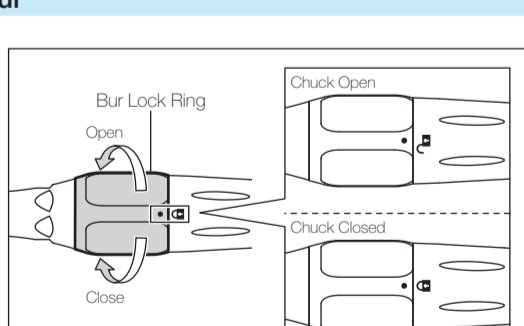

Fig. 2
(1) Mounting the Bur
- Turn the Bur Lock Ring in the direction of the "⌚" mark until it clicks. (Fig. 2)
- 2) Turn the Bur Lock Ring to the OPEN position. (Fig. 2)